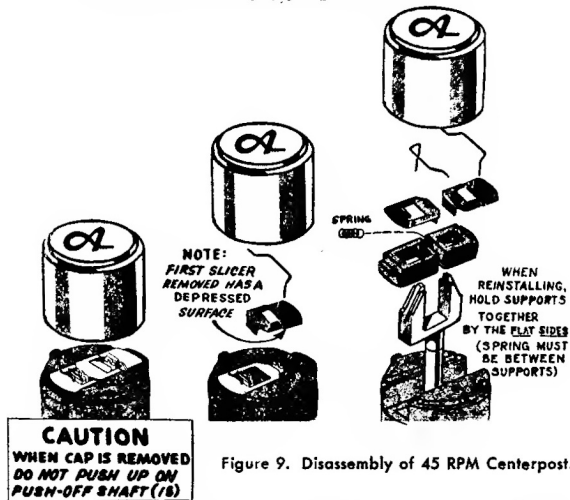

Figure 9. Disassembly of 45 RPM Centerpost.
(See Figure 9)
1. Remove screws (12) from underside of centerpost and lift up the centerpost cap (3). See figure 9. *CAUTION: When the centerpost cap (3) is off, use extra care to keep from accidentally pushing up on the push-off adjusting shaft (15). If this shaft is pushed up, the slicer return springs (4) and slicers may fly off and be lost.*